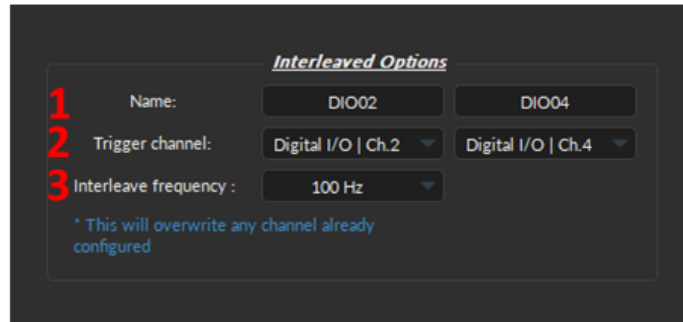

Figure 3.37: Channel(s) configuration window, Analog Input Interleaved
To use the **interleaved mode**, specify the parameters in the **Interleaved Options** section of the *Channel Configuration* window (Fig. 3.37):
1. The **Name** (Fig. 3.37, 1) lets users customize the label of the channel to increase clarity of the acquisition system.
2. The **Trigger channel** (Fig. 3.37, 2) drop-down list allows the choice of interleaved outputs (can be either digital or analog). However, once the first channel is selected, the user will only be allowed to select the same type of output (analog or digital) for the second channel.
3. The **Interleave frequency** (Fig. 3.37, 3) drop-down list allows the choice of a pre-configured frequency (either 10, 20, 50 or 100Hz) for the interleaved channels. The two selected trigger channels will be configured to function at the chosen frequency.